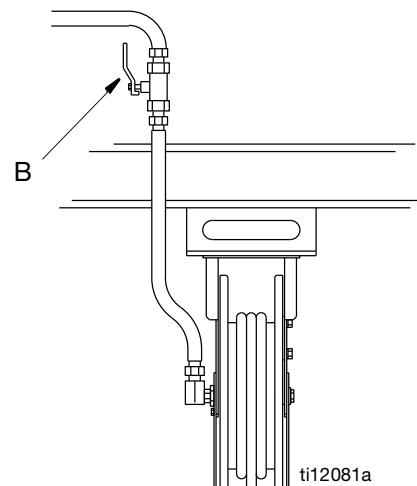

FIG. 8
4. Open all dispense position shut-off valves (B, FIG. 8) and start the pump to pressurize the system. See **Operation**, (LDM5 Meters - page 14; LDP5 Meters - page 23), for proper operation of meter.